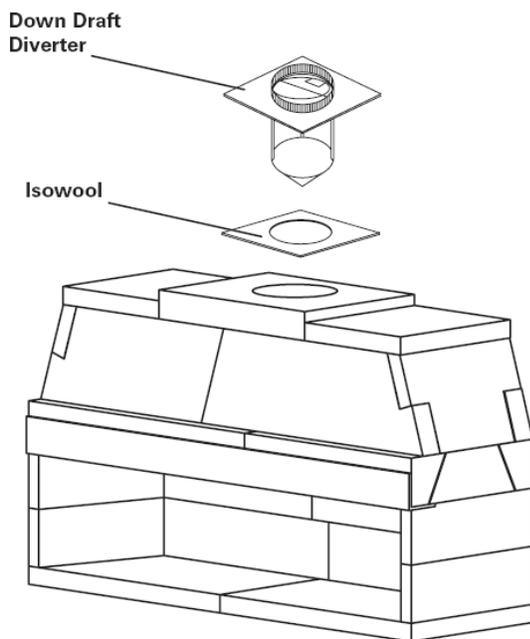

FIGURE 27
- 2) Center the Isowool blanket over Isokern Top Plate’s outlet and trace the outlet’s outline with a pen or marker. Cut a hole in the blanket along this outline to match the hole in the Isokern top plate. Center the cut Isowool blanket over the Isokern Top Plate flue opening, then center Anchor Plate over the Isowool blanket (**Figure 27**).
- 3) Secure the Anchor Plate with four (4) masonry anchors.